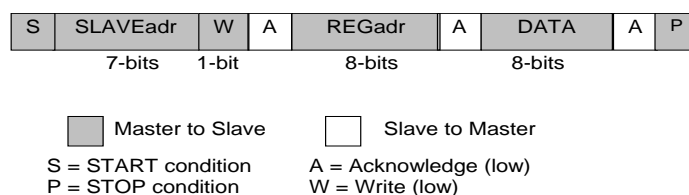
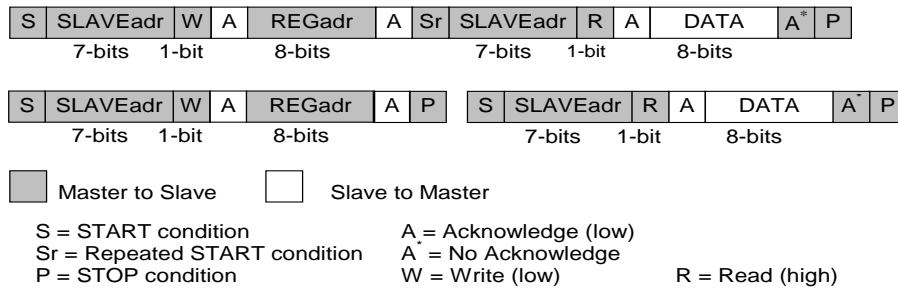

Figure 7: I²C Byte Write (SDA Line)
Figure 8: I²C Byte Read (SDA Line) Examples
The I²C bus is monitored for a valid slave address whenever the interface is enabled. It responds immediately when it receives its own slave address. The acknowledge is done by pulling the SDA line low during the following clock cycle (white blocks marked with A in Figure 7 and Figure 8).
The protocol for a register write from master to slave consists of a START condition, a slave address with read/write bit, and the eight-bit register address followed by eight bits of data, terminated by a STOP condition. DA9142-A responds to all bytes with acknowledge (A), see Figure 7.
with a repeated START, or alternatively a second START, condition. After receiving the data, the host sends no acknowledge (A*) and terminates the transmission with a STOP condition, see Figure 8.